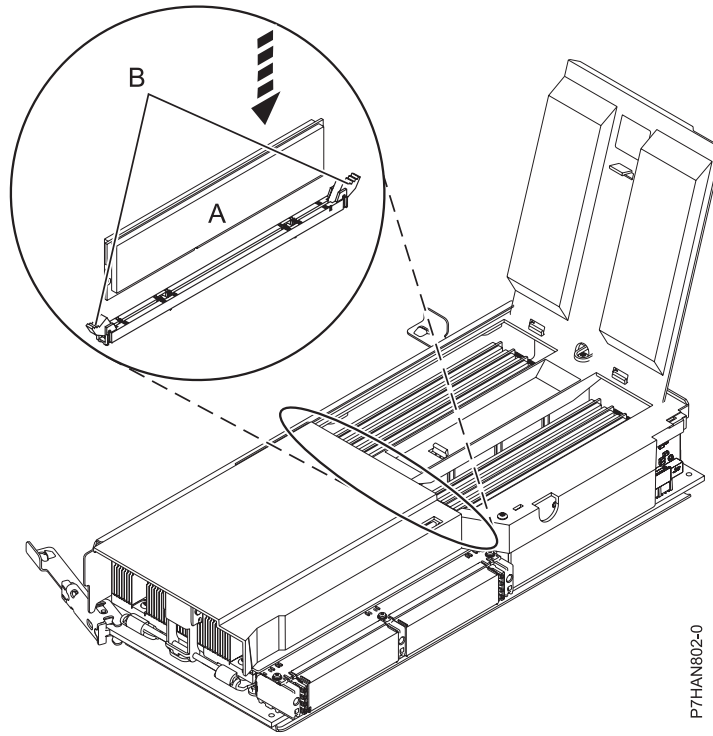

Figure 6. Replacing a memory module
7. Insert the memory module firmly into the connector **(A)**, as shown in Figure 6 on page 10.
8. Secure the memory module with the locking tabs **(B)** located at each end of the memory module connector, as shown in Figure 6 on page 10.